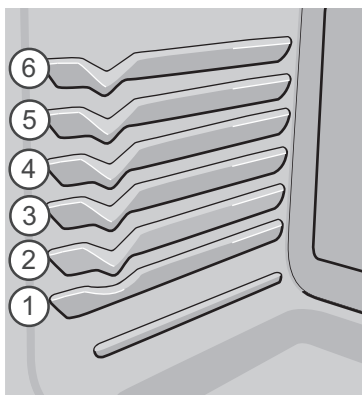
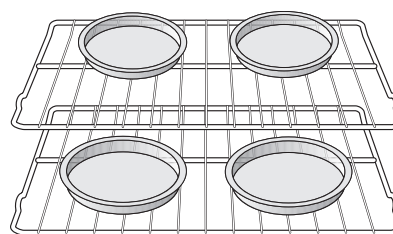

Figure 12: Oven rack positions
Figure 13: Baking on multiple levels/racks
- For best results when baking cakes or cookies using two oven racks, place racks in positions 1 and 5 (Figure 12) and place pans as shown in Figure 13. Use flat rack in position 5 and glide rack in position 1.
- When baking using two oven racks, position bakeware as shown in Figure 13. Allow at least 2 inches (5 cm) of space between bakeware for proper air circulation.